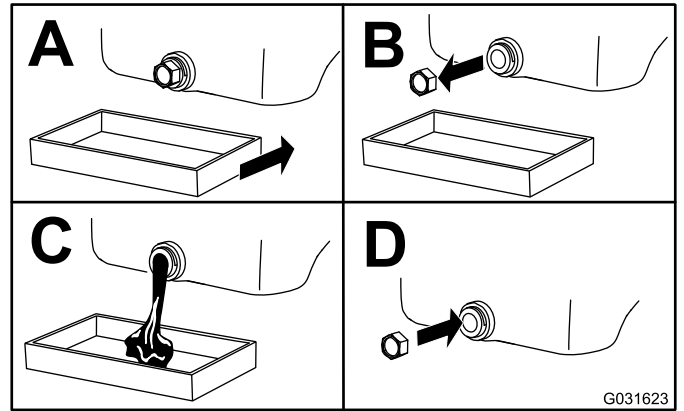

Figure 99
5. Change the engine oil as shown in Figure 99.